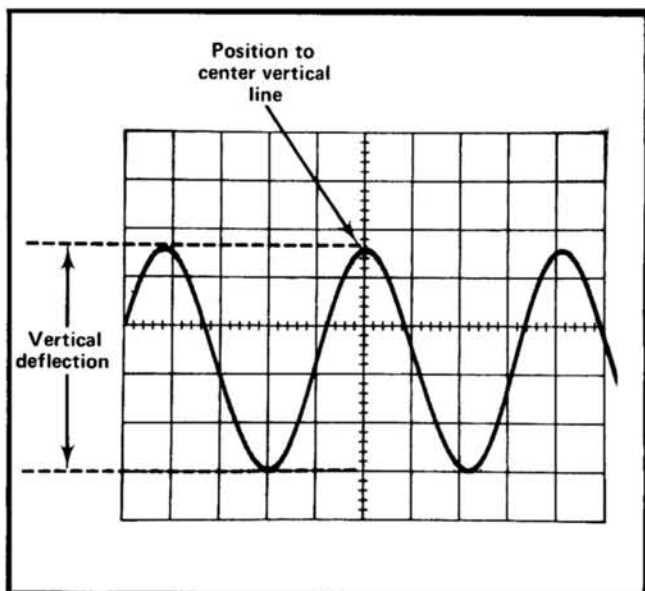

Fig. 2-1. Measuring the Peak-to-Peak voltage of a waveform.
5. Turn the 7A15A/7A15AN POSITION control so the lower portion of the waveform coincides with one of the graticule lines below the center horizontal line, and the top of the waveform is within the viewing area. With the time base Position control, move the display so one of the upper peaks lies near the center vertical line (see Fig. 2-1).